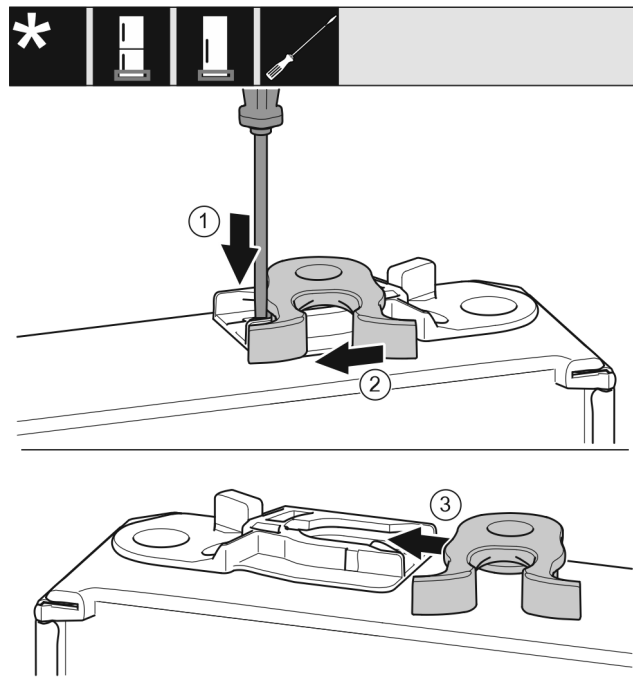

Fig. 24 *
- Use a slotted screwdriver to push the tab Fig. 24 (1) downwards.*
- Pull the closing hook Fig. 24 (2) out of the guide.*
- Insert the closing hook Fig. 24 (3) into the guide on the other side.*